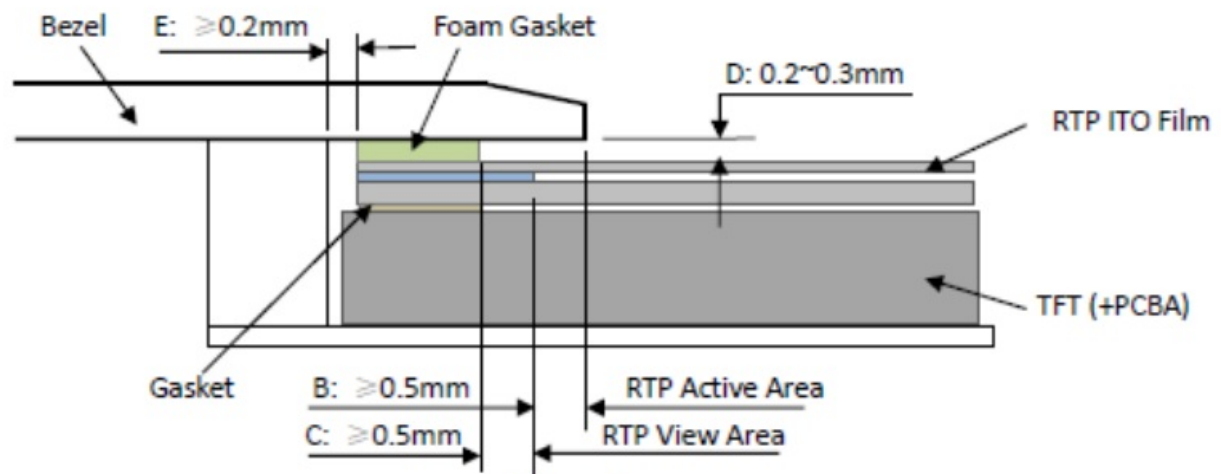

Figure 4
(Figure 4)
- The bezel side wall should keep space  $E= 0.2 \sim 0.3\text{mm}$  from the RTP. (Figure 4)